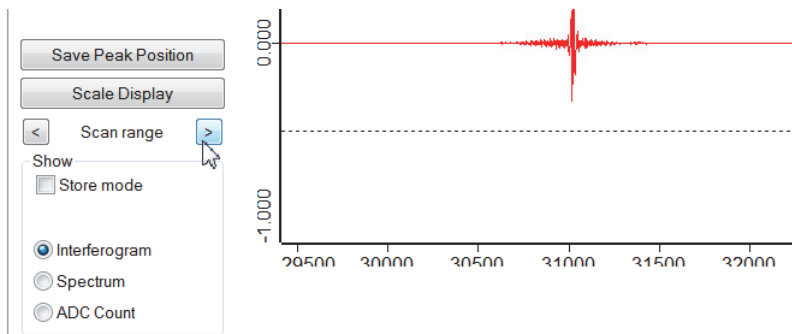

Figure 4.4: Moving scan region
4. Use the arrow buttons (figure 4.4) to move the scan region to the left or right if no interferogram peak is displayed.